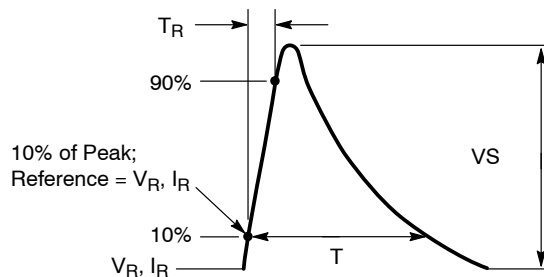

Figure 3. Load Dump Waveform Definition
3. Nonrepetitive load dump suppressed pulse per Figure 3.